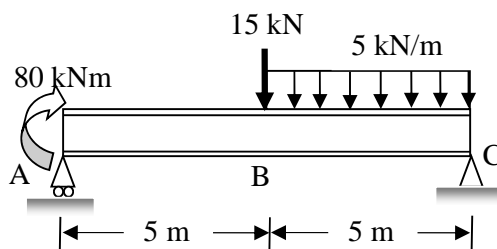

Figure 3 / Rajah 3
3. An I-beam is used to carry a concentrated load 15 kN at B, a uniformly distributed load 5 kN/m along portion BC and a concentrated moment 80 kNm at A as shown in **Figure 3**.